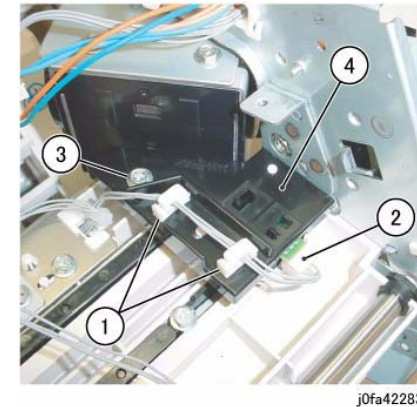

Figure 3 Removing the Rear Tamper Home Sensor Assembly
9. Remove the Rear Tamper Home Sensor Assembly (Figure 3):